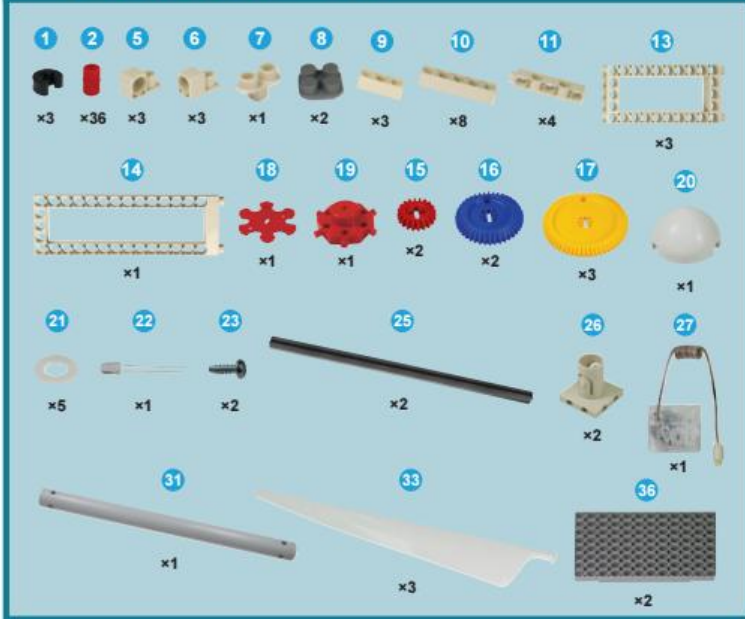

Fig. 56
1. Refer to Fig. 56: Fix the Hub with your left hand and adjust the angles of the bottom end of the blade.